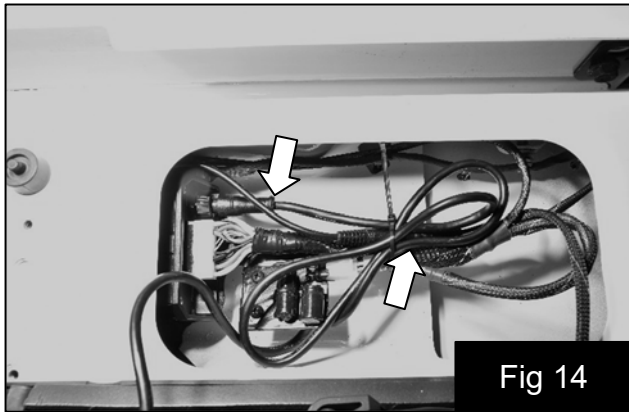

Fig 14
- 17. Connect the controller to the amplifier and secure by turning locking ring clockwise until finger tight. Secure with wire ties Fig 14
- 18. Connect the 1/8-inch jack to the amplifier. Secure with wire ties Fig 14